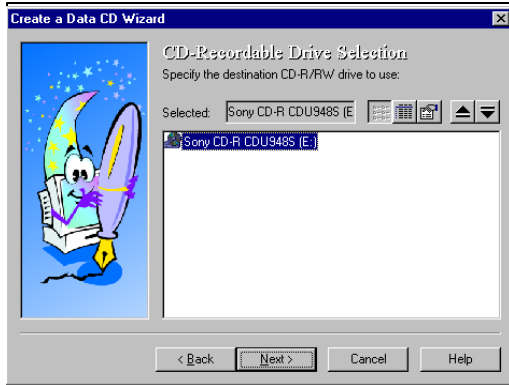

Figure 3
5. At the Drive Selection window, verify the Sony CD-R CDU948S (E:) drive is showing in the screen and click on the Next button to continue. See Figure 3 at the top of the next page.